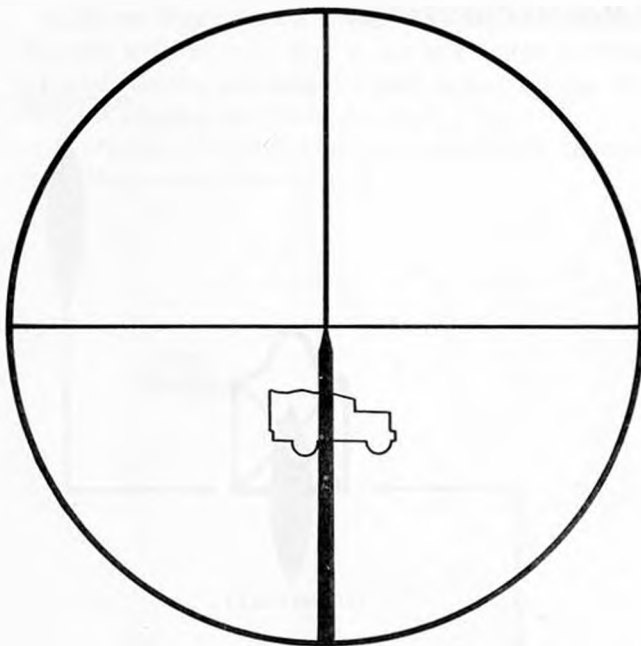

Figure 30. Stationary target, second round sight picture, using gun cradle lower sight.
(2) The gunner mentally noted the point where the burst appeared in relation to the vertical and horizontal lines and, with the cupola controls, moved that point to the center of the target (fig 30). He fired a second round and obtained a target hit.